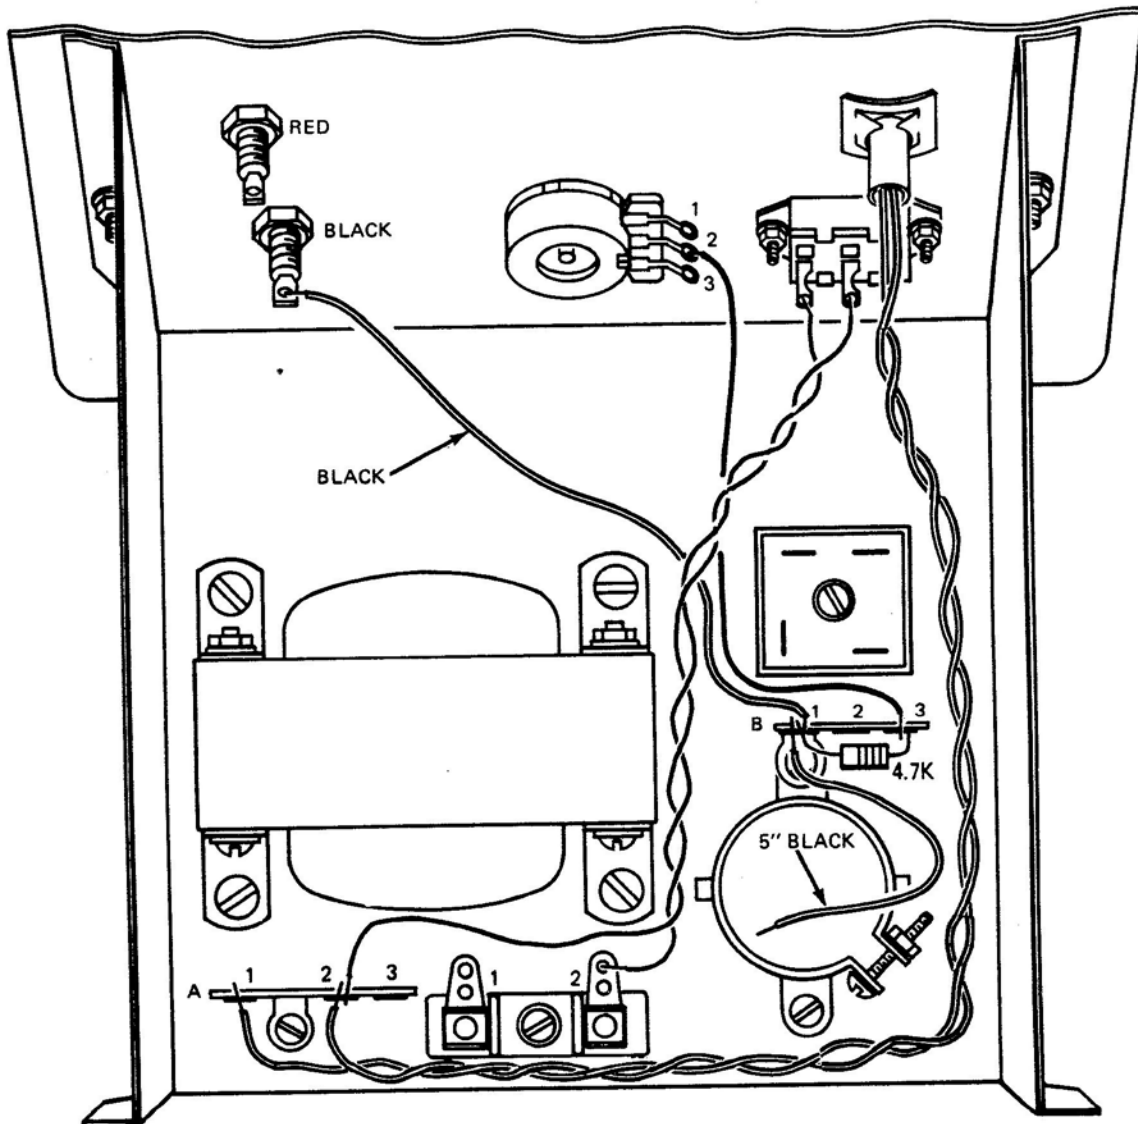

Fig. 10. Wiring the front panel.
(1) Place the chassis on your workbench and bring the front panel to the chassis as shown in Fig. 10. Insert the four screws through the panel and the sides of the chassis. Use a lockwasher and a 6-32 hex nut on each screw. After you have the four screws in place, tip the chassis on its side and insert the screws through the two remaining holes in the bottom chassis lip. Again, use lockwashers and 6-32 hex nuts. Tighten the two screws through the bottom lip of the chassis and then tighten the four screws through the panel and at the sides of the chassis
(2) Loosely twist together the two black leads connected to the on-off switch. Dress the leads against the chassis and route
them as shown in Fig. 10, connecting the shorter of the two leads to terminal 2 of the fuse holder (S1), and the longer to terminal 2 of the 3-lug terminal strip A (NS) near the rear of the chassis
(3) Loosely twist together the two leads from the pilot light and route them as shown in Fig. 10. Connect one lead to terminal 1 of the 3-lug terminal strip A (NS) and connect the other lead to terminal 2 of the 3-lug terminal strip (S3)
(4) Connect the 4.7k-ohm resistor from terminal 1 (NS) to terminal 3 (NS) of terminal strip B
(5) Connect the stranded black wire from the black jack on the front panel to terminal 1 of the 3-lug terminal strip B (NS)
(6) Prepare a 5" length of stranded black wire and connect one end of it to terminal 1 of terminal strip B (S4)
(7) Connect the solid red wire from terminal 2 of the potentiometer to terminal 3 of terminal strip B (NS)